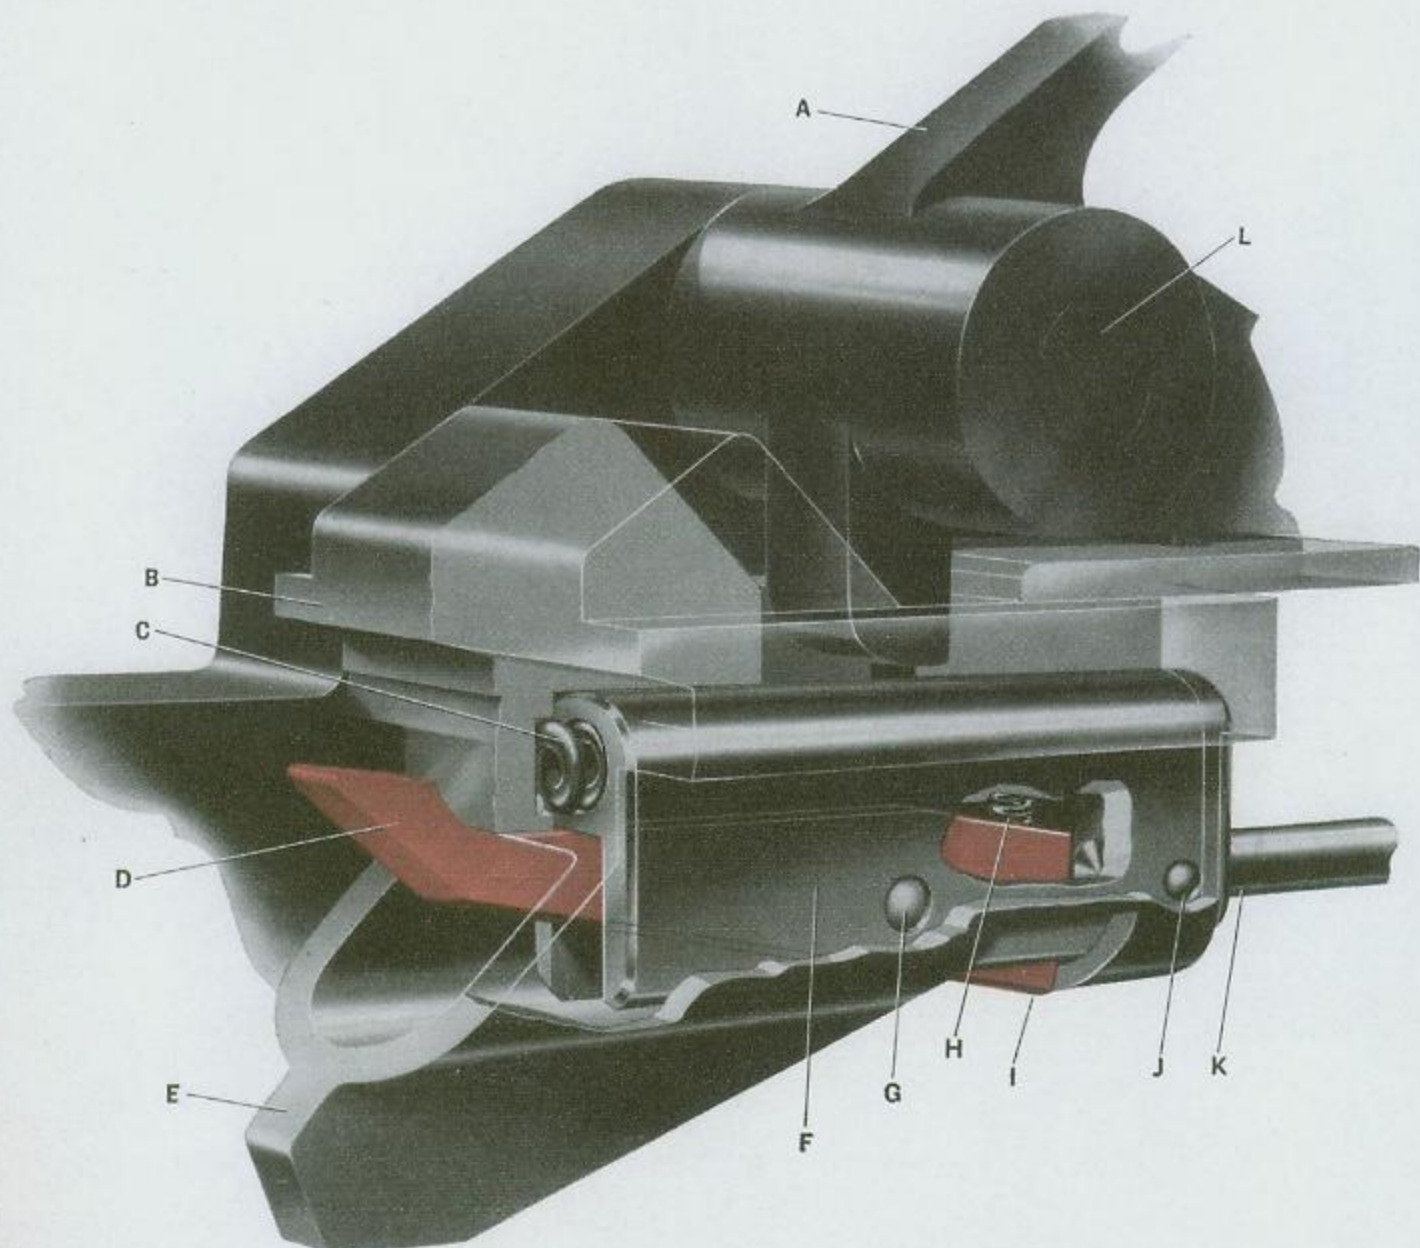
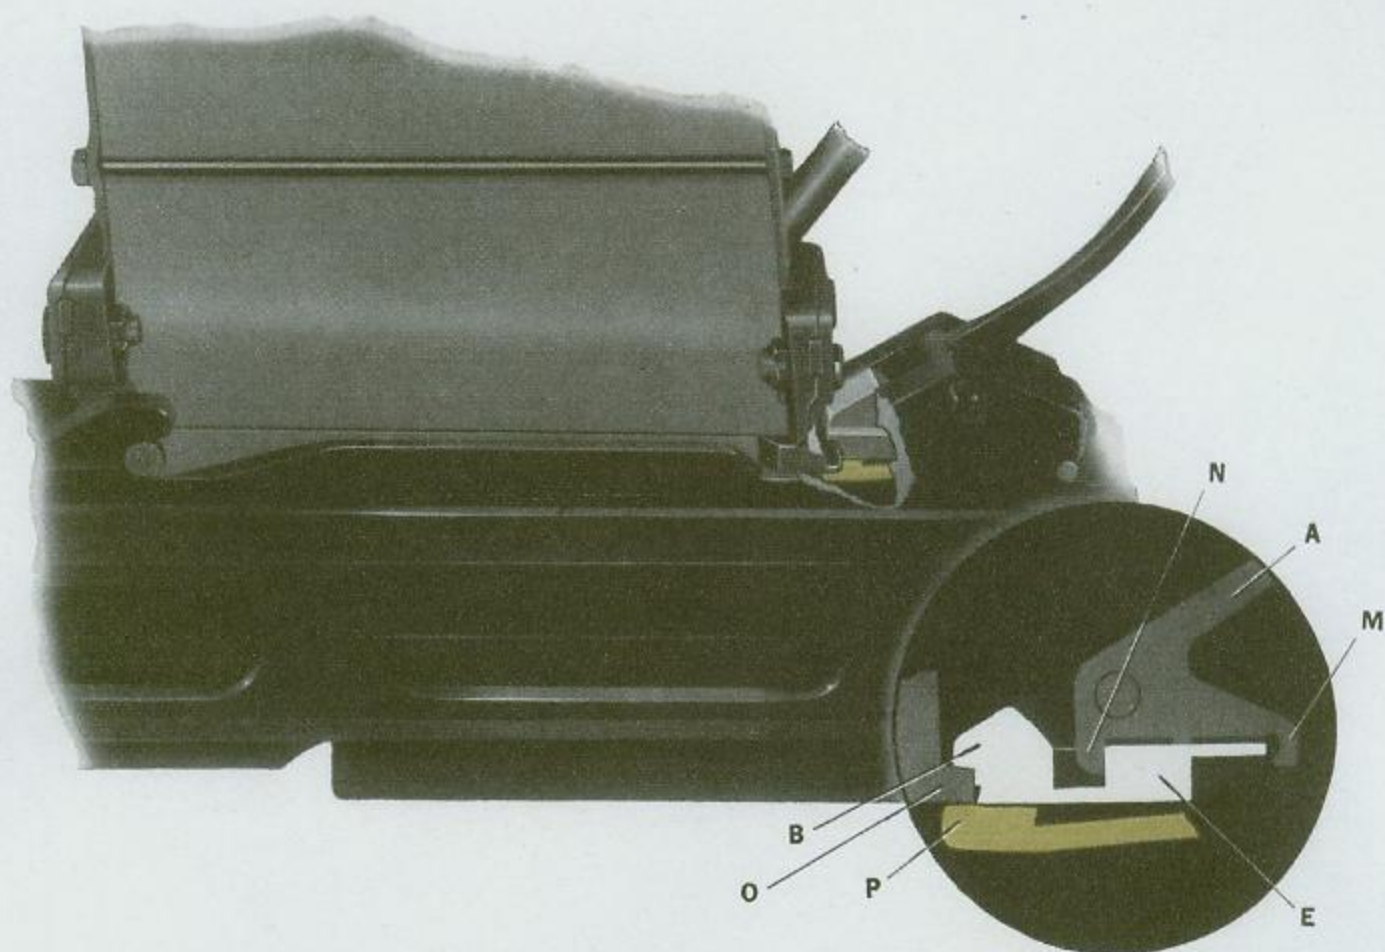
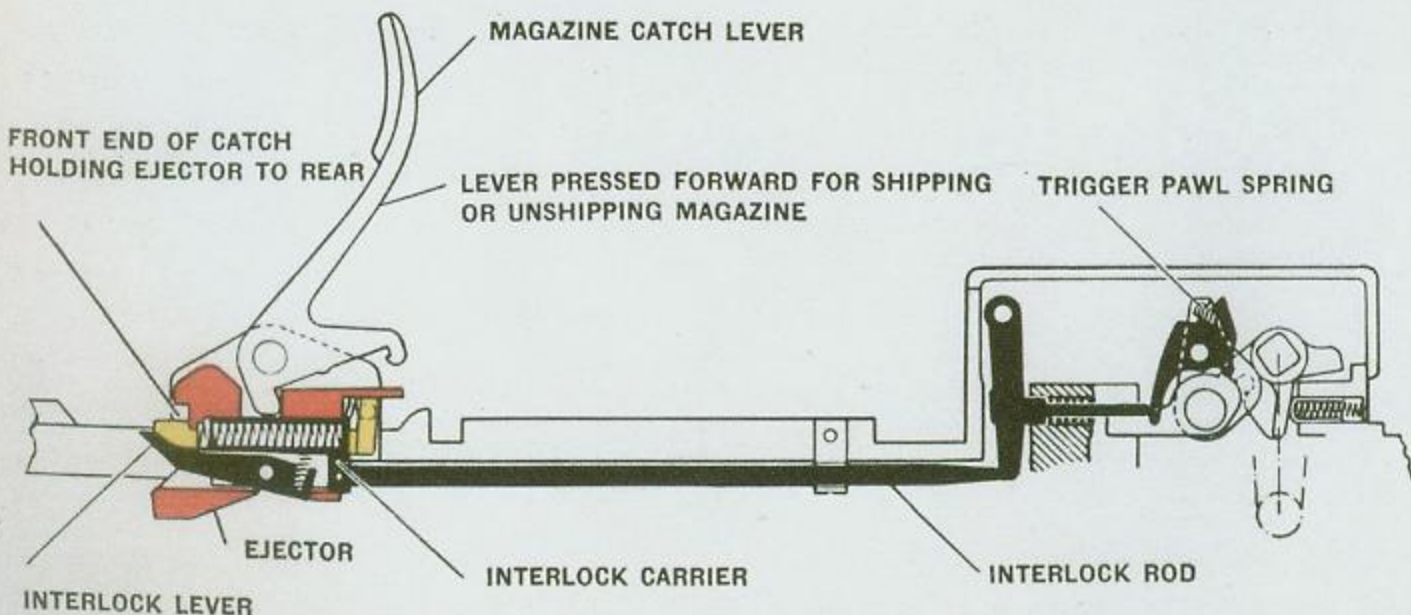

Figure 14—Magazine Interlock Gear in firing position
Figure 15—Magazine in shipped or firing position, showing catch down and ejector locking magazine in place
Figure 17—Magazine catch gear and ejector in position for shipping or unshipping magazine
Magazine Catch Gear and Ejector, Figure 14, is mounted in the breech casing and consists of three sections:
3. Front portion of the magazine interlock gear, as shown in Figure 14. See Page 48 for details of trigger gear operation caused by interlock rod.
The magazine catch gear is operated by a magazine catch lever (A), Figure 14, rotating on an axis bolt (L) mounted on the breech casing. The front toe (N), Figure 15, on the lever engages with a face on the ejector (E). The rear toe (M) on this lever engages with the upper rear end of the ejector. The ejector (E) is free to move slightly in a longitudinal direction and, therefore, can be moved rearward by rotating the magazine catch lever (A) toward the muzzle.
On the front end at the top of the ejector is a lug (B), Figure 15, that engages a corresponding lug (O) on the magazine and holds the magazine to the gun. See Figure 15. If the ejector is held cocked to the rear by the catch, the lug is clear of the magazine so that the latter can be shipped or unshipped. See Figures 17 and 18. As above mentioned, the ejector can be moved rearward to the cocked position by rotating the magazine catch lever toward the muzzle.